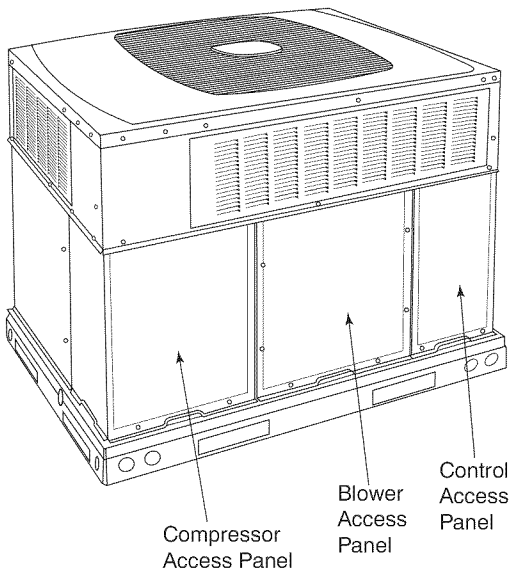

Fig. 25 - Unit Access Panels
3. Remove control access panel (See Fig. 25).